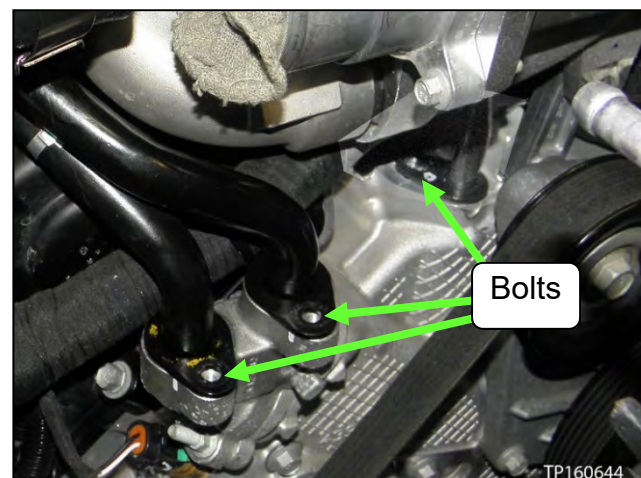

Figure 35
22. Remove both water transfer connection bolts (see Figure 35).
23. Remove the EGR bypass valve coolant tube bolt (see Figure 35).